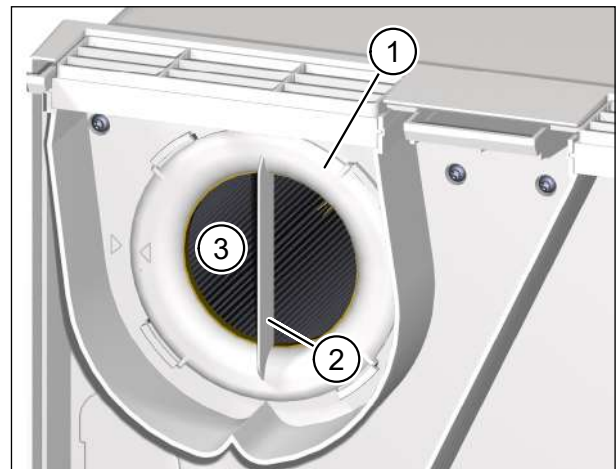

Fig. 16: Removing the extract air filter
- ▶ Turn the filter ring (item 1 in Fig. 16) using the hand grip (item 2 in Fig. 16) anti-clockwise until the filter ring is released from the retainers.
- ▶ Pull the filter ring together with the extract air filter (item 3 in Fig. 16) out of the ventilation unit.
- ▶ Check the position of the filter ring. The hand grip must be vertical and the arrow on the filter ring must line up with the arrow for the locking position (see Fig. 16 on page 31).